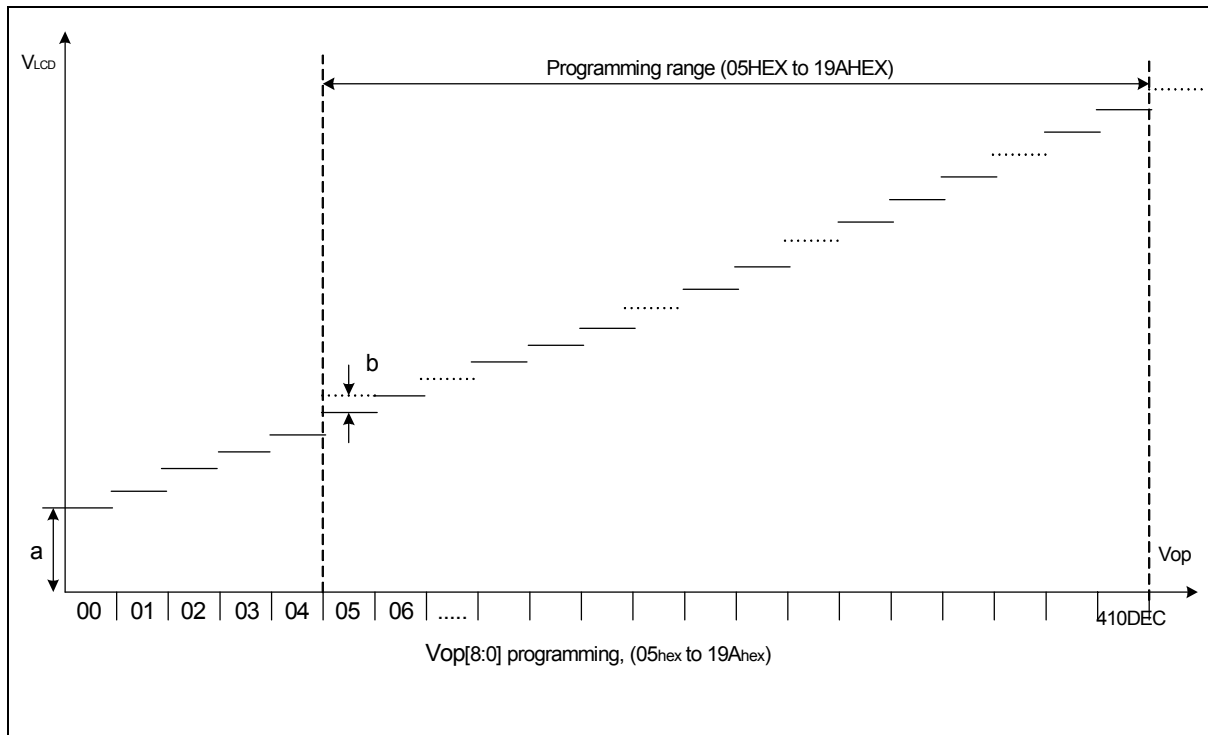

Fig. 8.10.2 VLCD programming range
The VOP[8:0] value must be in the  $V_{LCD}$  programming range as given in Fig.8.10.2. Evaluating equation (1), values outside the programming range indicated in Fig.8.10.2 may result. Calculated values below 0 will be mapped to  $V_{OP}=0$ , resulting  $V_{OP}$  values higher than 445 will be mapped to  $V_{OP}=445$ .